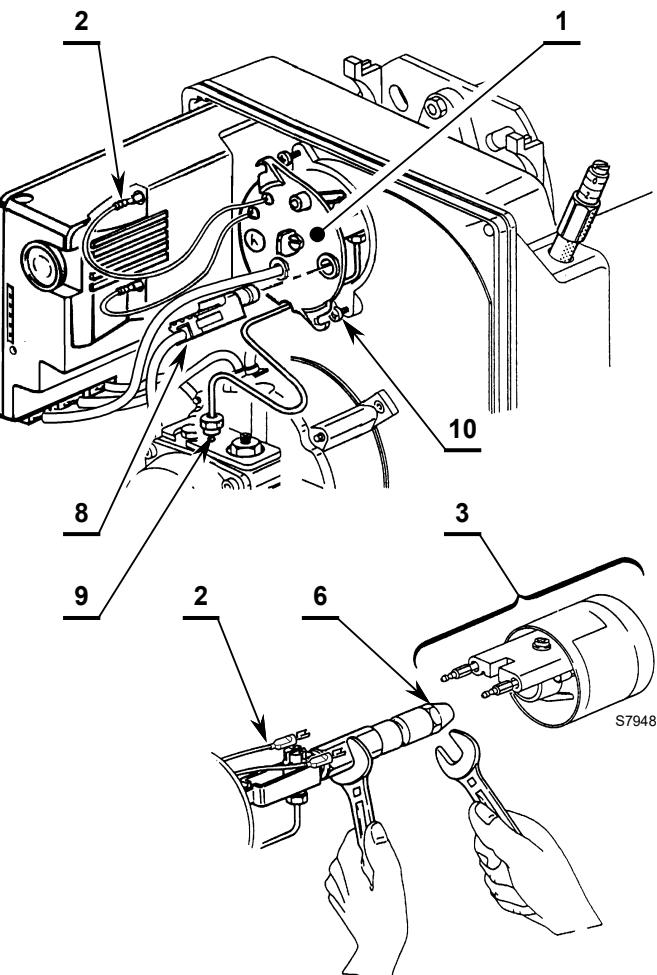

Fig. 13
1st Method (Fig. 13):
- remove the wires 2)(Fig. 13) from the flame control, the flame sensor 8) and unscrew the nut 9) from the pump.
- Remove the wires 2) from the electrodes, loosen the screw 4)(Fig. 13) and remove the diffuser disc-holder assembly 3) from the nozzle-holder assembly 1).
2nd Method (Fig. 13):